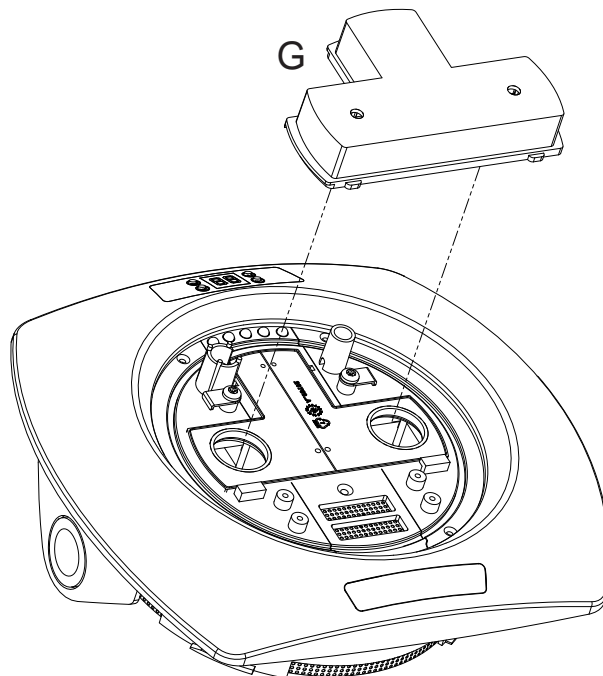

Figure 8-4: Remove Filter
2. Lift the filter (G) out of the detector (Figure 8-4).